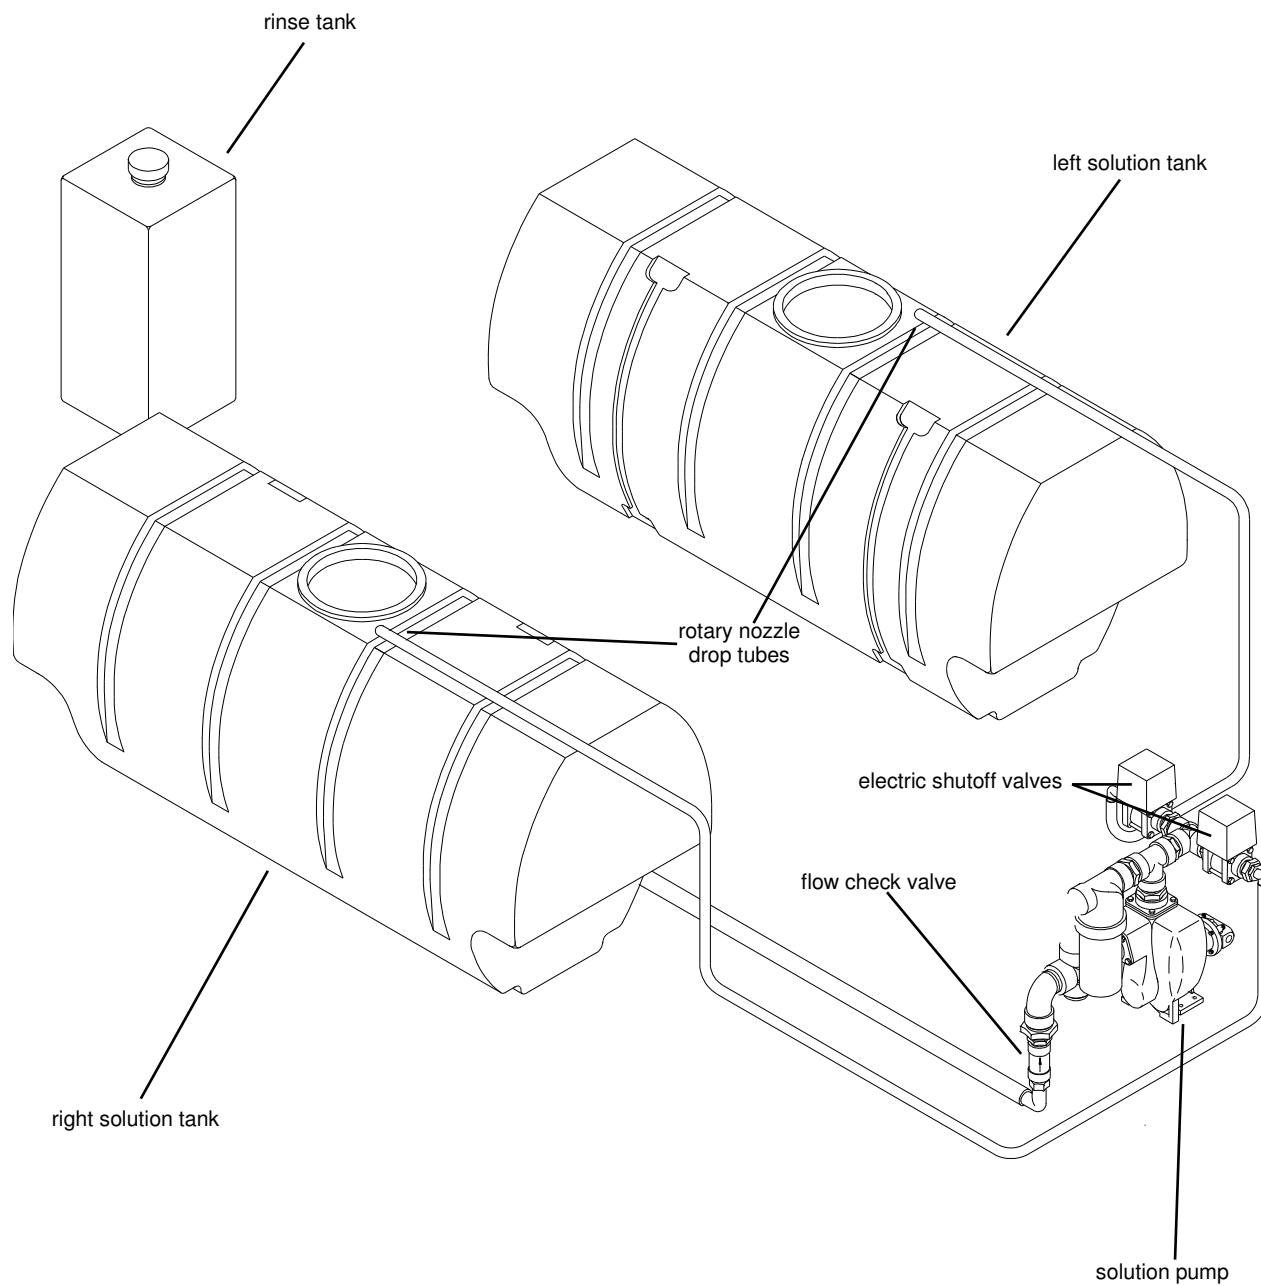

FIG 5.50
Relieve pressure from the foam tank by opening the 1/4" ball valve on the side of the foam tank (fig 5.50, item 2). Close the ball valve after pressure is relieved. Open the top 2" ball valve (fig. 5.50, item 1). Add water to the tank, leaving enough room for the foam concentrate. Next add the foam concentrate according to the label on the container. After filling is complete, close the 2" ball valve on top of the tank. Start the sprayer's engine and adjust the air pressure accordingly.